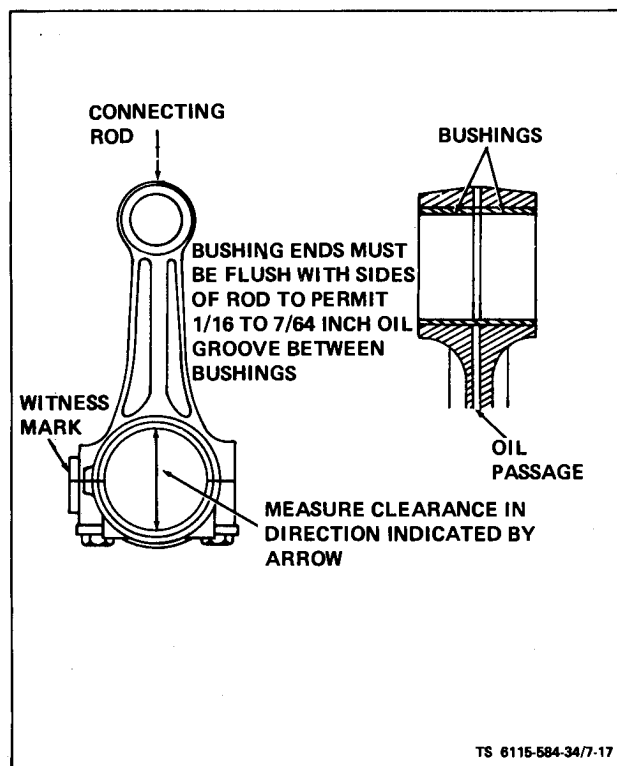

Figure 7-17. Connecting Rod and Bushings
(4) Connecting Rods (see figure 7-17). Clean connecting rods and check for each defects. Check connecting rod bushings for proper clearance with piston pin. Clearance is given in Table 1-2. If bushings (13, figure 7-14) are excessively worn, press them out and install one new bushing from each side of bushing bore. Press new bushings only until flush with sides of rod to leave 1/16 to 7/64 inch oil groove in center. Ream bushing I.D. to obtain the proper clearance. Check bore in connecting rod. Bore must be open. Check connecting rod alignment on a standard alignment fixture.
(5) Connecting Rod Bearings (see figure 7-17). Inspect connecting rod bearings for burrs, breaks, pits and wear. Measure clearance between bearings and crankshaft journal. See Table 1-2 for clearance. If necessary, replace with new standard or undersize precision bearings.
(1) Hone cylinder walls. Clean and oil the cylinder walls. Install each piston in proper cylinder using a suitable installer. Each piston assembly should be installed with notch on piston toward front of engine. The notch on the circumference of the closed end of the piston should be located closest to front of engine.
(2) Position each connecting rod on crankshaft and oil the journal and install rod cap with bearing half. When installing rod cap, position so raised witness mark on the forging matches the mark on connecting rod. See figures 7-17 and 7-18. The piston witness mark should face front and rod witness marks toward camshaft side of engine.
(3) Tighten capscrews to specified torque. See table 1-1.
(4) Turn engine over by hand to see that all bearings are free.